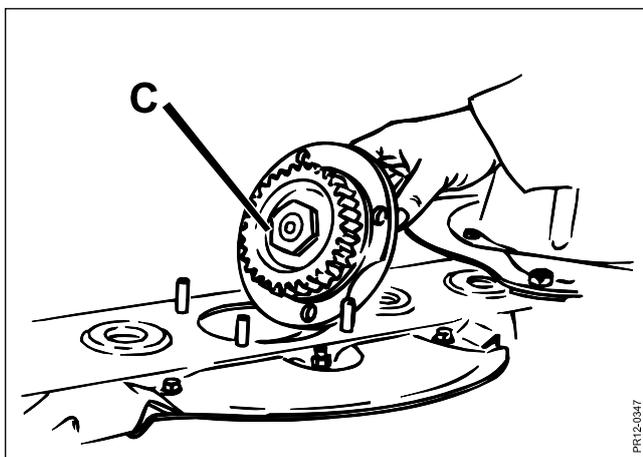

Fig. 6-10
- Fig. 6-10 A cutter bar is used on which each hub **C** below the discs is easily replaced from above (Top Service cutter bar).